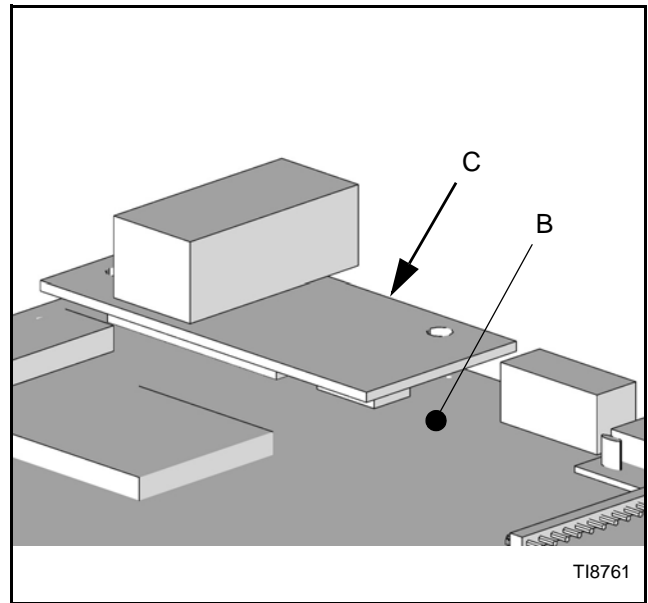

FIG. 41
5. Plug the Ethernet Assembly 249183 (C) into J9 making sure the RJ45 connector is oriented down. See FIG. 41 and FIG. 42.
6. Secure the Ethernet Assembly 249183 (C) to the EasyKey Display 249480 (B) using the hardware provided.